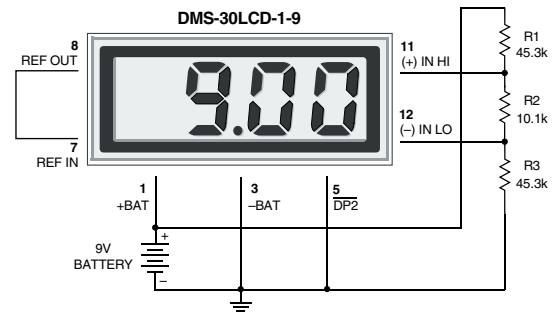

Figure 8. Power Supply Monitor (9V-Powered Models)
**6. Power Supply Monitoring:** A popular application for DATEL's low-power LCD meters is monitoring the supply voltage in battery-operated portable equipment. Figure 8 demonstrates how a 9V-powered DMS-30LCD can be used to monitor its own supply. The meter used is the DMS-30LCD-1-9. A three-resistor voltage divider is used to attenuate the battery voltage and also to satisfy the requirement that the input voltages applied to pins 12 and 11 be at least 1.5 Volts above and below the battery voltage applied to pins 1 (+BATTERY) and 3 (-BATTERY). The divider should be designed so that 1/10th the battery voltage falls across the inputs to the meter: